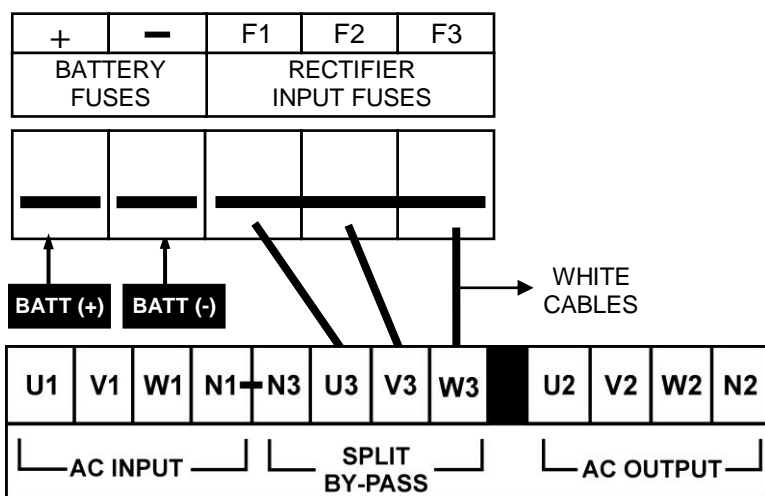

Figure 5-2-a 10-15-20 kVA Cable Connections
- a. The three white cables shown in Figure 5-2 are removed.